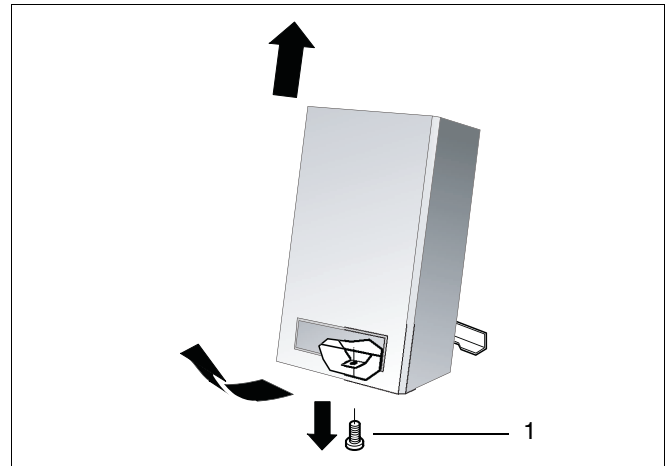

fig. 6 Remove outer casing
- Loosen the retaining screw on the bottom of the condensing gas boiler (→ fig. 6, item 1).